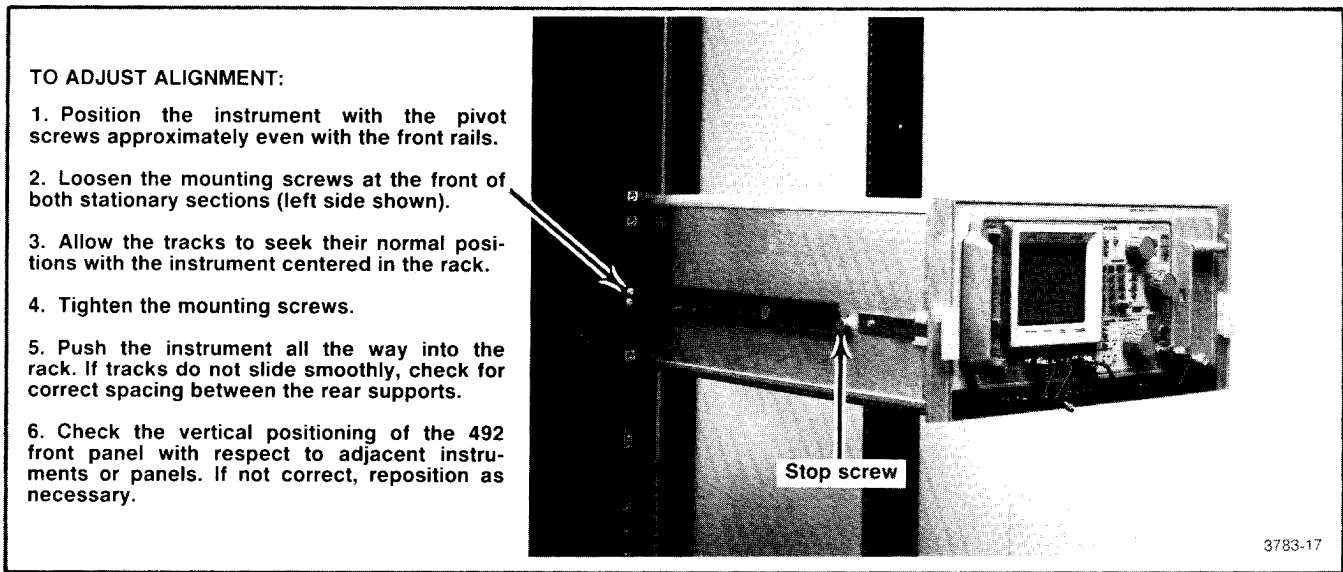

Fig. 6-7. Alignment adjustment for correct operation.
6) adjust the alignment of the stationary sections according to the procedure outlined in Fig. 6-7;